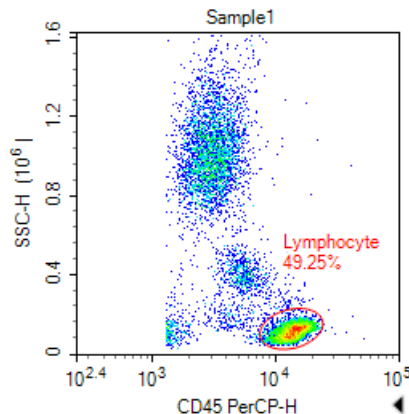

Figure 3-5 Create Density Plot and Draw Lymphocyte Gate
- 8 In the *Workspace*, create a density plot by clicking the *Density Plot* button  from the toolbar. Change the x-axis parameter to *CD45 PerCP-H* and the y-axis parameter to *SSC-H* (Figure 3-5). Use the *Zoom In* tool , to display the appropriate coordinate range for the sample. Draw an *Elliptical Gate* to gate the lymphocyte population on the plot, and rename the gate as *Lymphocyte*.